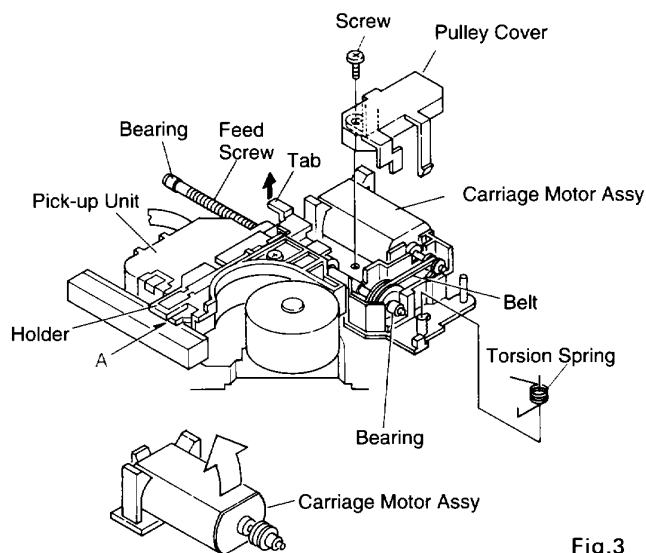

Fig.3
3. Remove the Torsion Spring which is pressed against the leading edge of the Feed Screw.(Fig.3)
4. Remove the Screw and Pulley Cover.(Fig.3)
5. Remove the Belt and the Pick-up Unit with the Feed Screw still attached.(Fig.3)
6. Lift the Tabs of the rack section of the Holder and remove the Feed Screw. While doing so, be careful not to lose the Bearings on the ends of the Feed Screw.(Fig.3)
### ● Removing the Carriage Motor Assy (Fig.3)